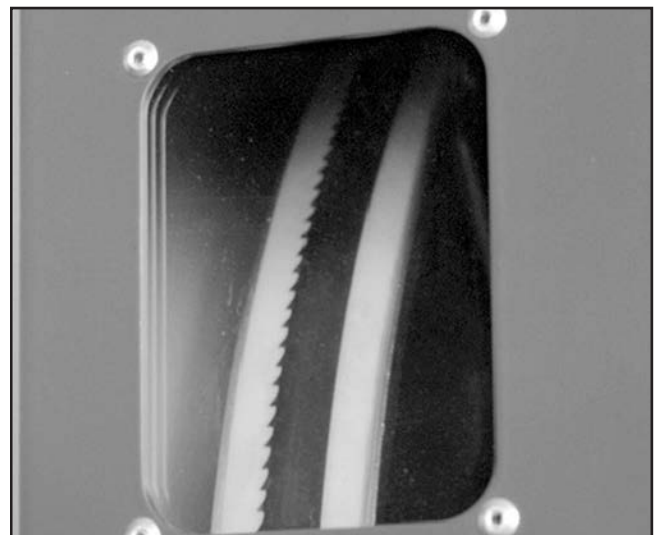

Figure 20. Blade tracking window.
8. Look through the blade tracking window (see **Figure 20**) and notice the position of the blade on the wheel.